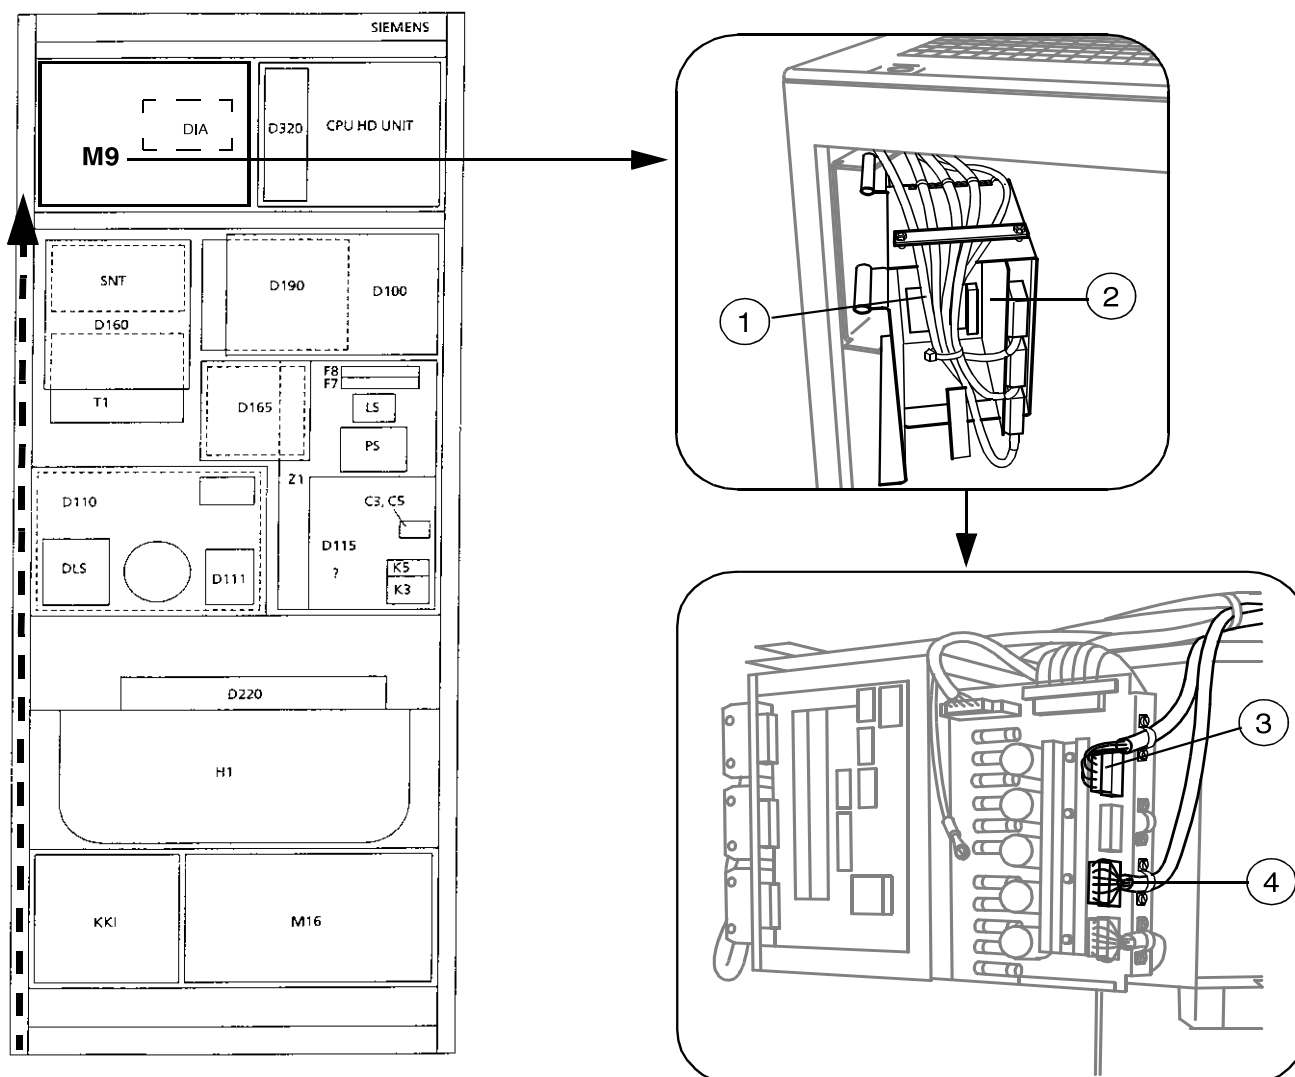

Fig. 9:
- D4.X2 cable D4 board (1/Fig. 9 / p. 22)
- D5.X3 D5.X1 and D5.X2 cables (from the BWS, if present) D1 board (2/Fig. 9 / p. 22)
- M9.D1.X7 cable D1 board (3/Fig. 9 / p. 22)
- M9.D1.X5 cable D1 board (4/Fig. 9 / p. 22)